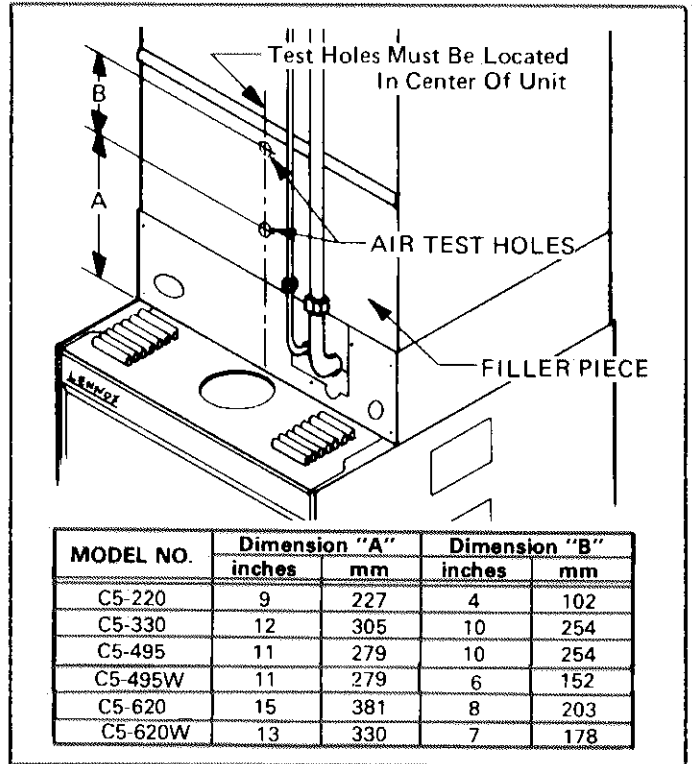

FIGURE 6
- 1 - Drill 5/16 inch air test holes in plenum as specified in Figures 6 and 7. C5-805 and C5-920 coils have a plastic hose connection at coil. Remove patch plate for access.